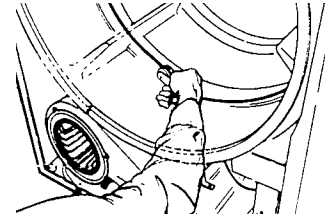

Fig. 26
3. Reach under drum and push idler pulley to the left to release tension on the belt. (Fig. 26) Remove belt from motor pulley.